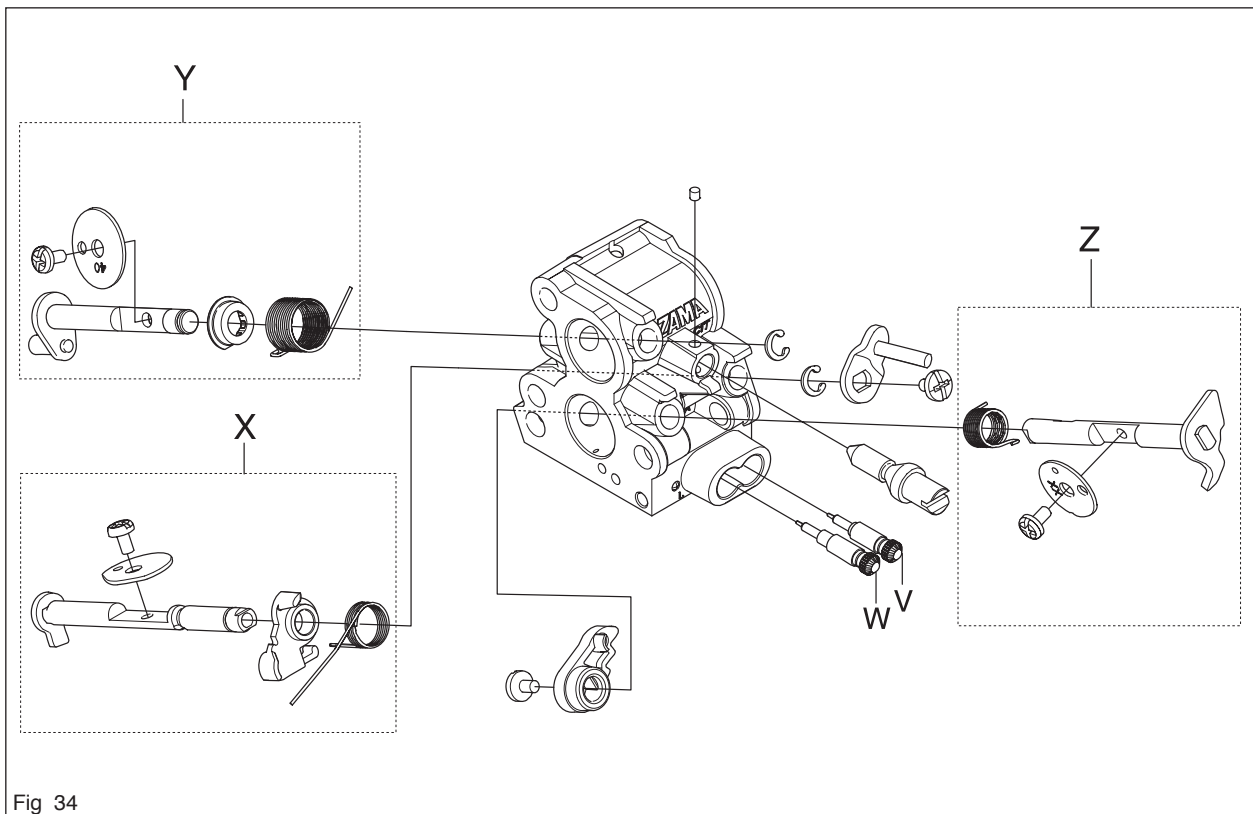

Fig 34
6. Disassemble the pump cover (G) over the measuring chamber cover (R) and carefully remove the control diaphragm (H) with gasket (J).
7. Unscrew the screw (K) and remove the needle valve (L) with lever (M), shaft (N) and spring (P).
8. Unscrew the screw (Q) above the pump unit and carefully remove the gasket (S) and diaphragm (T).
9. Use a needle or similar device and carefully pull up the fuel screen (U).
10. Unscrew the high (V) and low jet screws (W) (see figure 34).
11. If necessary, dismount the throttle valve (X), choke valve (Z) and air shutter (Y) and remove the shafts with levers and springs (see figure 34).
5. That the tips of the high (V) and low jet screws (W) are not damaged (see figure 34).